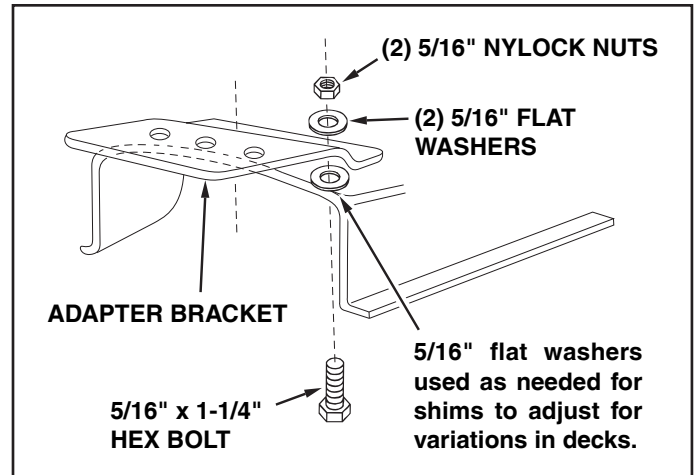

FIGURE 26
- Assemble the adapter bracket to the deck using two 5/16" x 1-1/4" hex bolts, 5/16" flat washers and 5/16" nylock nuts. See figure 26.
NOTE: It may be necessary to use extra 5/16" flat washers to shim under the bracket next to the deck surface. Ten extra washers have been furnished as shims. See figure 26.